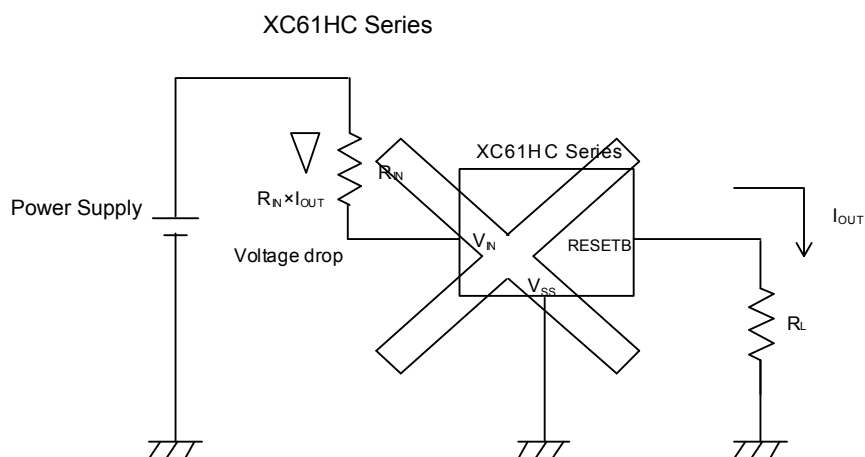

Figure 2 Irregular Oscillation by output current
3. When a resistor ( $R_{IN}$ ) is connected between the  $V_{IN}$  pin and the power supply with CMOS output configurations, irrespective of N-ch open drain output configurations, oscillation may occur as a result of shoot-through current at the time of voltage release even if load current ( $I_{OUT}$ ) does not exist. (refer to Figure 2 below)